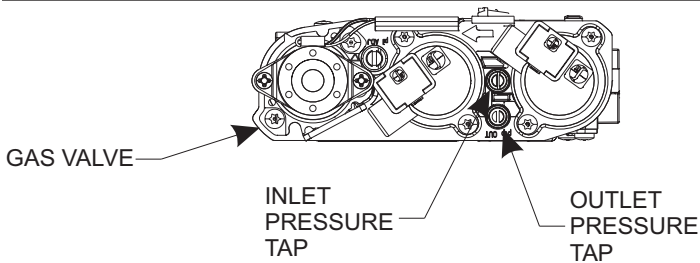

Figure 17
**NOTICE:** The gas control is equipped with a captured screw type pressure test point, therefore it is not necessary to provide a 1/8 inch test point up stream of the control. **See Figure 17.**